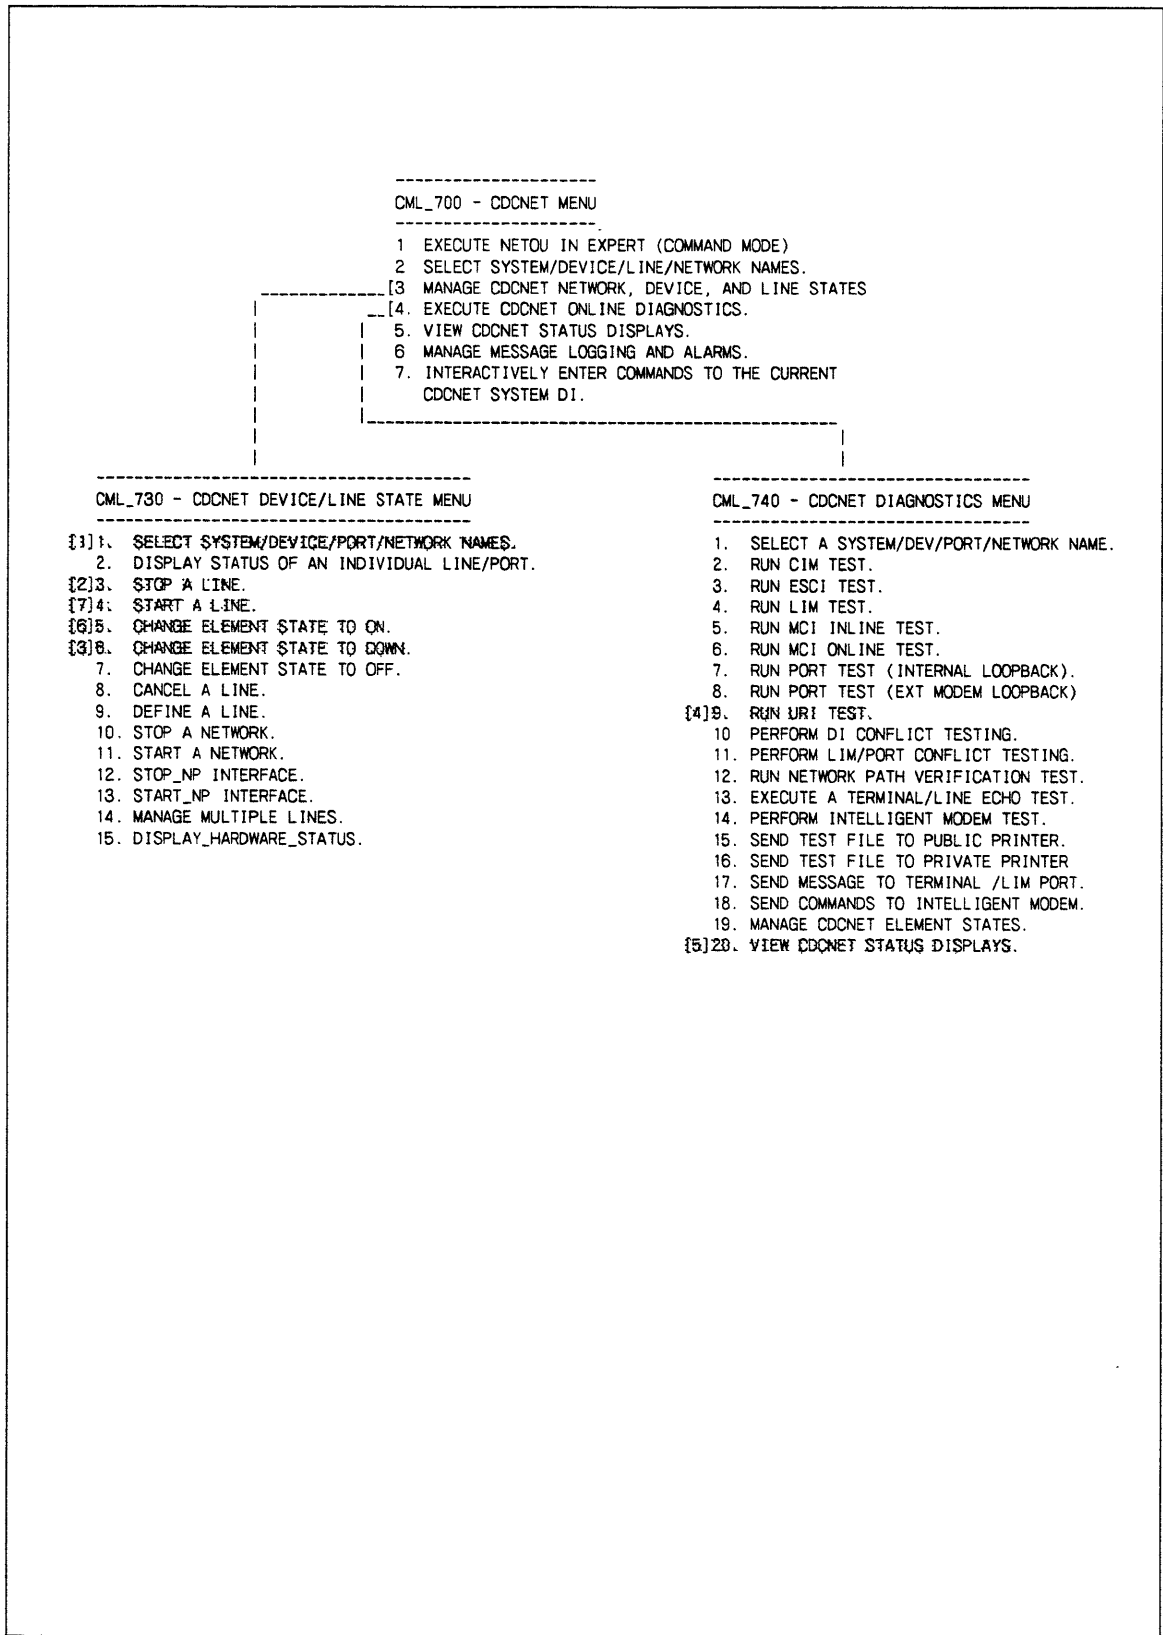

Figure 6-14. CML/VE Menus for URI Online Test
The following shows the CML/VE menu choices necessary to run the URI online test. Each menu choice is shown on figure 6-14 and described below. The purpose of this topic is to serve as a quick reference for the most frequently used menu selections. See chapter 4 for a complete description of CML/VE. Familiarize yourself with the URI test notes and procedure given earlier in this topic before running the test.
- Numbers in this column correspond to the bracketed numbers (for example, [1]) on figure 6-14.